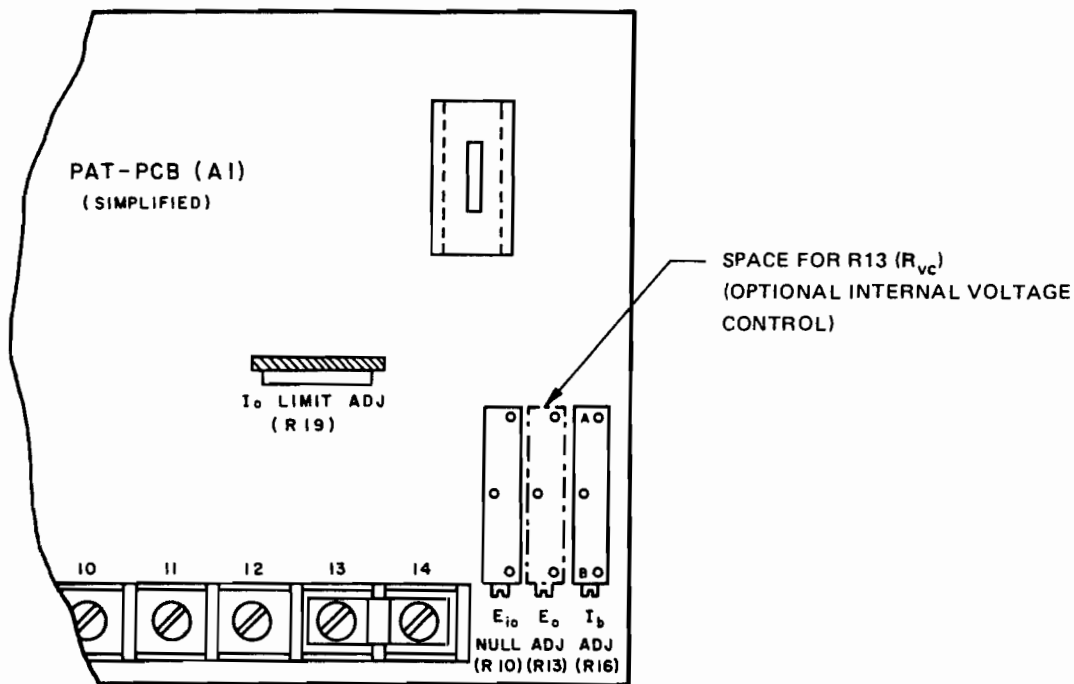

FIG. 5-2 INSTALLATION OF OPTIONAL CONTROLS.
5-6 CURRENT LIMITING CONTROL ADJUSTMENT (Refer to FIG. 5-2) A single-turn potentiometer (R19) conveniently located on the topline of the printed circuit board serves as an adjustment for limiting the output current through the range of 5% to 105% of its maximum rated value. It is factory-adjusted for approximately 5% above the maximum rated output current and has to be reset only if a component should have to be replaced or if a lower limit than the preset value is desired.
5-7 INSTALLATION AND ADJUSTMENT OF THE (OPTIONAL) VOLTAGE CONTROL RHEOSTAT (R_{vc}): REFER TO FIG. 5-2.
- a) Refer to FIG. 5-2. The voltage control resistance (R_{vc}) may be installed internally in the space on the printed circuit board as shown.